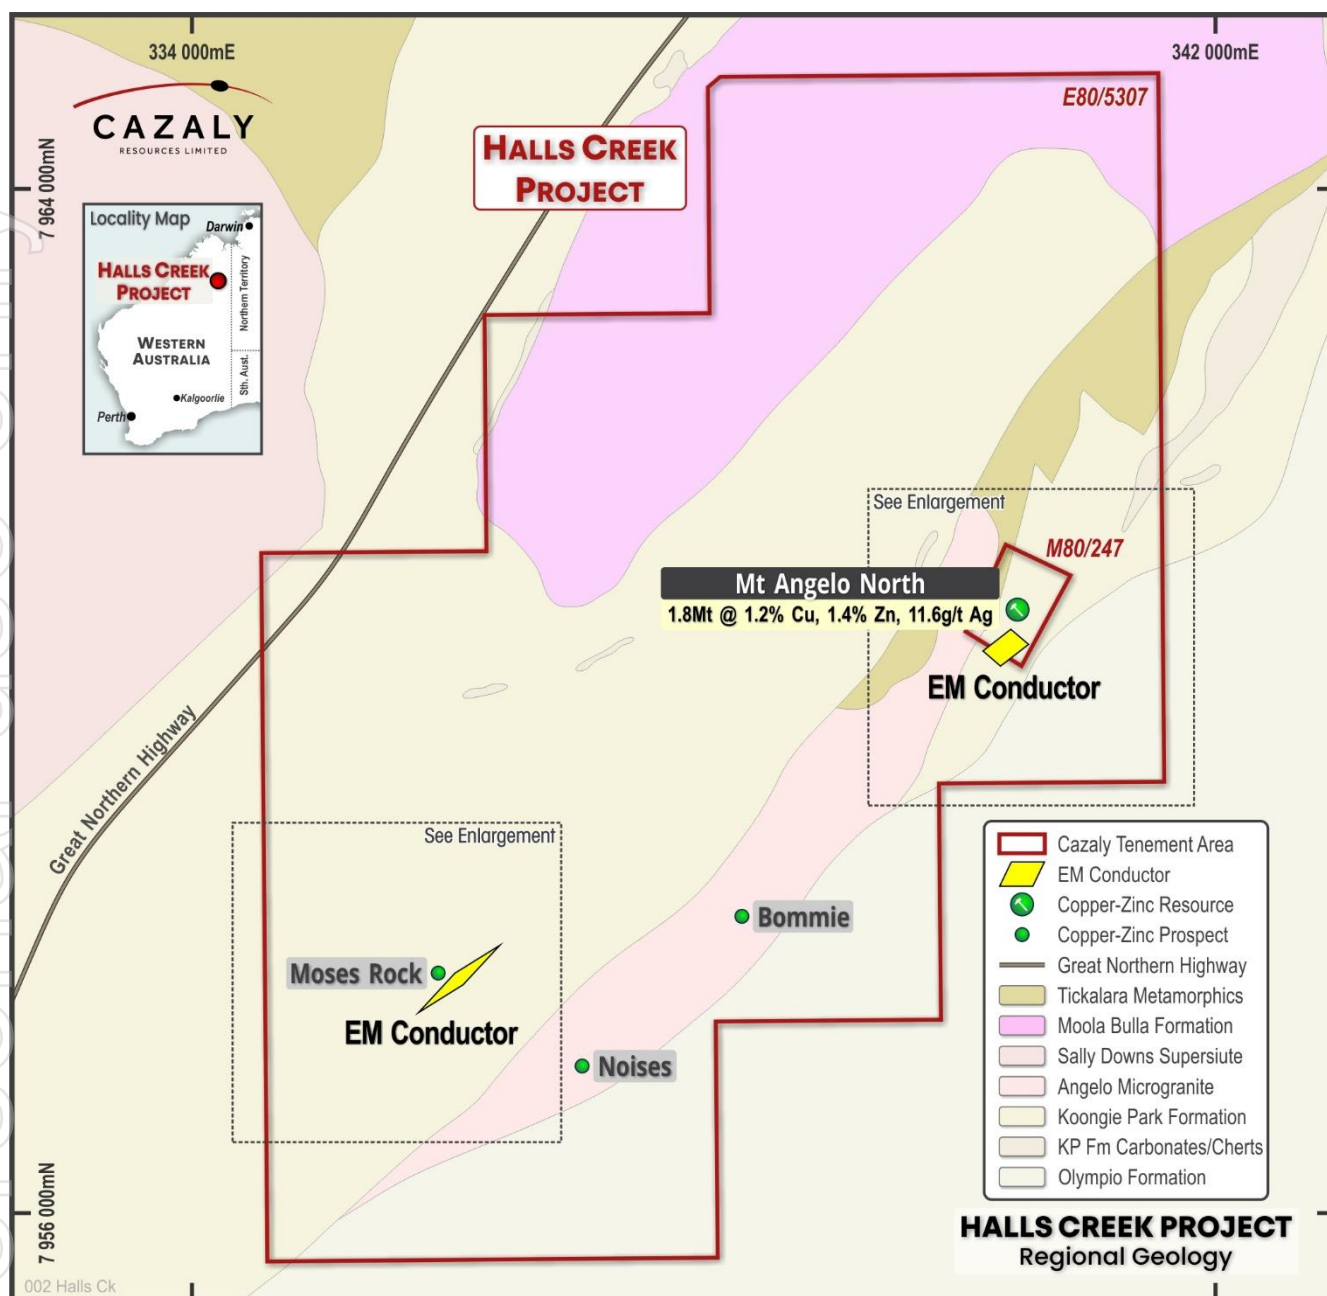

Figure 1. Halls Creek Project Area. New MLEM Conductors identified at Mount Angelo North Resource Area and Moses Rock.
The MLEM survey was completed in late August over seventeen (17) line kilometres across the Mount Angelo North Cu-Zn deposit and other target areas across the project. Appendix 1, Section 2 includes details of the MLEM survey. Two clear bedrock conductors were identified at **Mount Angelo North** and **Moses Rock** located 5km to the southwest (Figure 1).